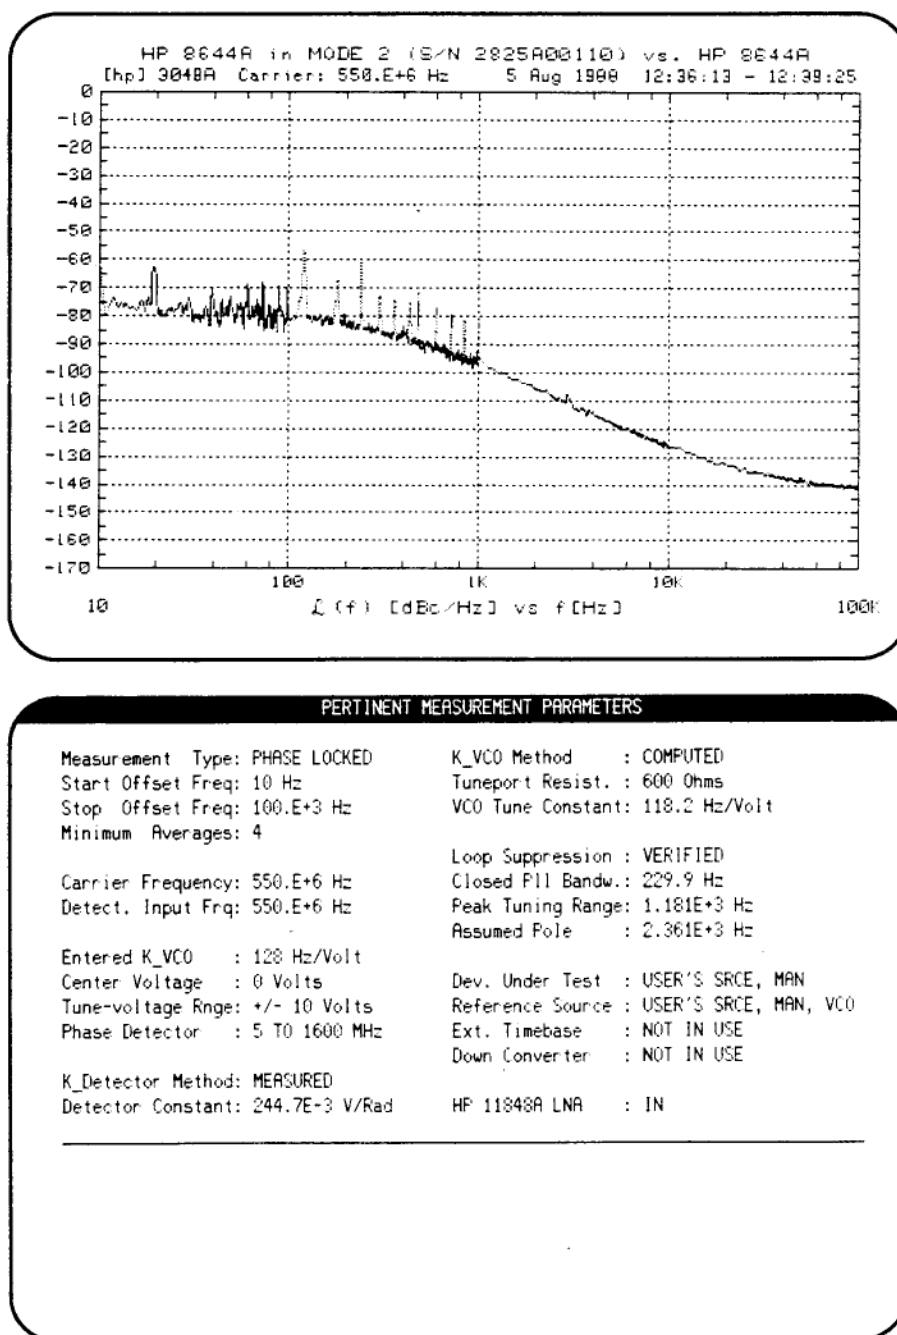

Figure 8-13. Phase Noise Plot and Pertinent Measurement Parameters
13. When the connect diagram appears on the display, verify that the instrument connections are properly made then press the **Proceed** softkey. The phase noise measurement should proceed without error and the phase noise plot should appear as in figure 8-13. Ignoring spurious signals, the phase noise ($\mathcal{L}(f)$) should be less than -130 dBc at 20 kHz for the HP 8643A and less than -136 dBc at 20 kHz offset for the HP 8644B. Spurious signals at offsets > 10 kHz should be < -100 dBc for the HP 8643A and < -105 dBc for the HP 8644B.
*Figure 8-13 also shows a listing of measurement parameters. This listing with the graph itself can be printed by holding down the keyboard's SHIFT key and pressing the **Hard Copy** softkey.*